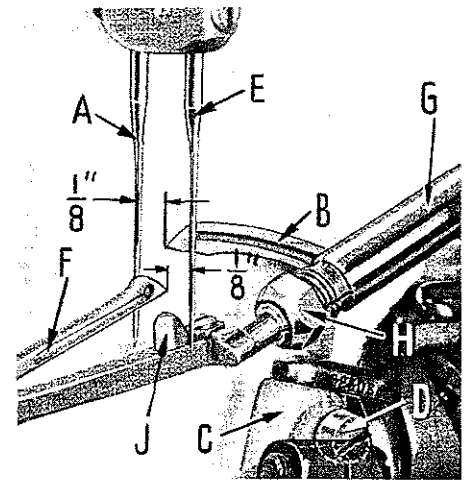
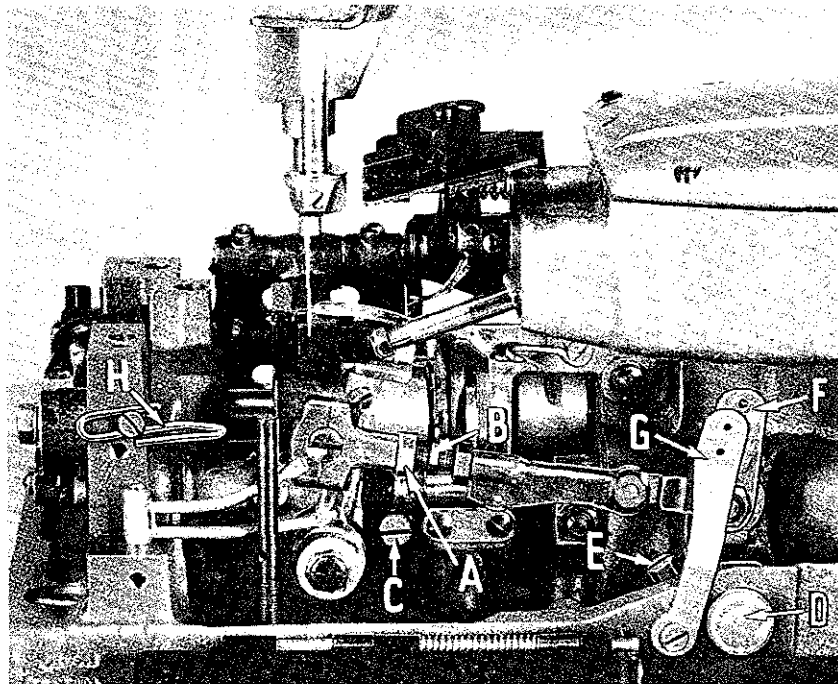

Fig. 3
Fig. 4
Insert the rear needle (A, Fig. 3), Type 108 GS, size as specified and insert the 401 stitch looper (B) in the looper rocker (C), and tighten screw (D). Rotate hand-wheel in operating direction until back looper is in the extreme right position. The looper should be set so that its point is  $\frac{1}{8}$  inch from the center of the back needle, as in Fig. 3. Looper gauge No. 21225- $\frac{1}{8}$  can be used advantageously in making this adjustment. If adjustment is needed, loosen nut (A, Fig. 4) (it has a left hand thread) and also loosen nut on right end of connecting rod (B), turn connecting rod forward or backward to obtain  $\frac{1}{8}$  inch, and retighten both nuts.
Insert the front needle (E, Fig. 3) and also insert the 503 stitch looper (F) in the lower looper bar (G), and tighten nut (H). Rotate handwheel in operating direction until front looper is in the extreme left position. The looper should be set so that its point is  $\frac{1}{8}$  inch from the center of the front needle, as in Fig. 3. Looper gauge No. 21225- $\frac{1}{8}$  can be used advantageously in making this adjustment. If adjustment is needed, loosen nut (H) and slide looper in or out of its holder and retighten nut.
With the back looper (B, Fig. 3) in the looper rocker (C), turn the handwheel in the operating direction until the looper moves to the left and its point is even with left side of the needle (A). Note the height of the eye of the needle with respect to the looper point, then turn the handwheel in the reverse direction until the looper point again moves to the left and is even with the left side of the needle.
If the motions are synchronized, the height of the eye of the needle with respect to the looper point will be the same. A variation of .005 inch is allowable. If the distance from the eye of the needle to the point of the looper is longest when the pulley is turned in operating direction, move the looper drive lever shaft synchronizing stud (D, Fig. 4) to the rear. Moving it in opposite direction acts the reverse.
Moving of the looper drive lever shaft synchronizing stud is accomplished as follows: Loosen clamp screw (E, Fig. 4) of looper drive lever.
The 503 looper thread take-up (F, Fig. 4) should be positioned approximately on the center line of the looper drive lever as per Fig. 4. Eyelets (G, and H, Fig. 4) are positioned correctly when the lower looper thread is taut as the spreader reaches the left end of its travel.
To control the ratio of thread pulled during the leftward movement, use the thread take-up eyelet (G, Fig. 4).
Moving this eyelet to the left causes more looper thread to be drawn on the left hand stroke of the spreader, and moving it to the right causes less looper thread to be drawn. Moving this eyelet to the right or left also affects the drawing of the looper thread at the extreme left position. To readjust for this condition, move the eyelet (H, Fig. 4) to the right to reduce the thread drawn or to the left to reduce the amount of slack. The two eyelets (F and G) are to be adjusted in conjunction with each other so that the following conditions are met: (1)  $1/3$  of the looper thread is drawn during the left stroke of spreader, and (2) No looper thread is drawn at the extreme end of stroke.